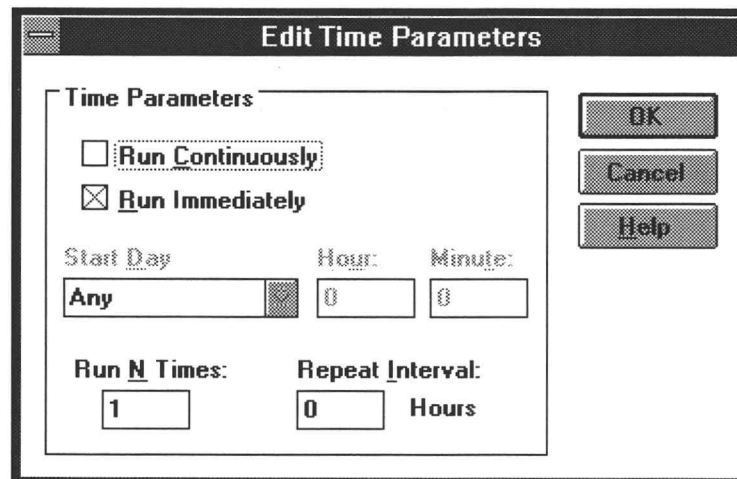

Figure 4-27. The Edit Time Parameters dialog box (from the Measurement Sequence dialog box).
- Choose the Edit Time Parameters command button. The display should be similar to Figure 4-27.